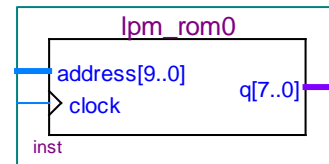

Figure 1: An lpm\_rom component.
9. Place your ROM device somewhere in your “.bdf” window. You should see something like Figure 1 when you try to place the component onto your schematic: